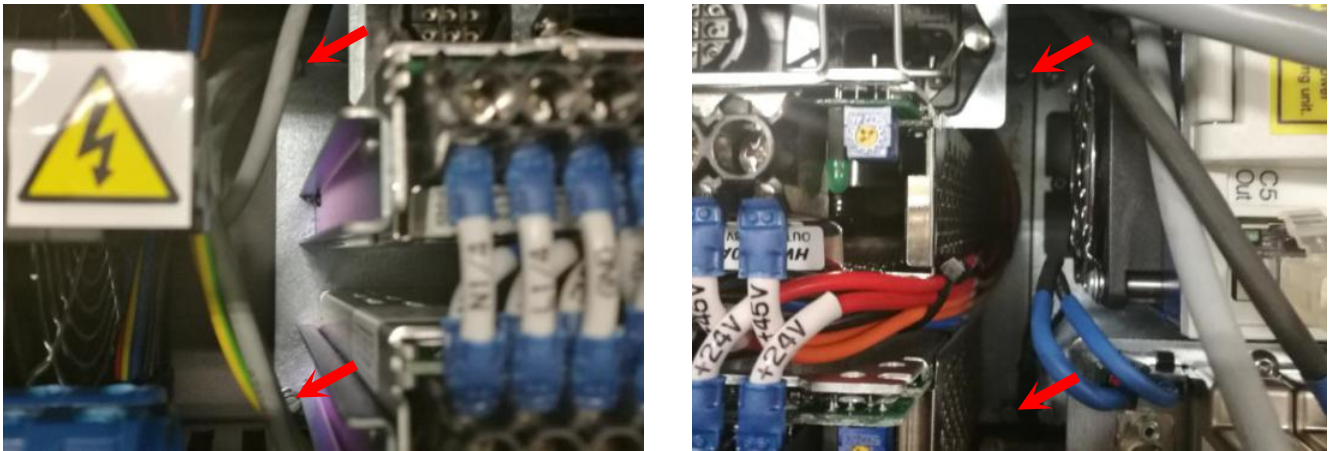

Figure 4 Power Supply Module Removal
6. Loosen 4 x Thumb Screws by using Flat Head Slotted Screwdrivers as below Figure 4. Remove entire Power Supply Module from SSCA